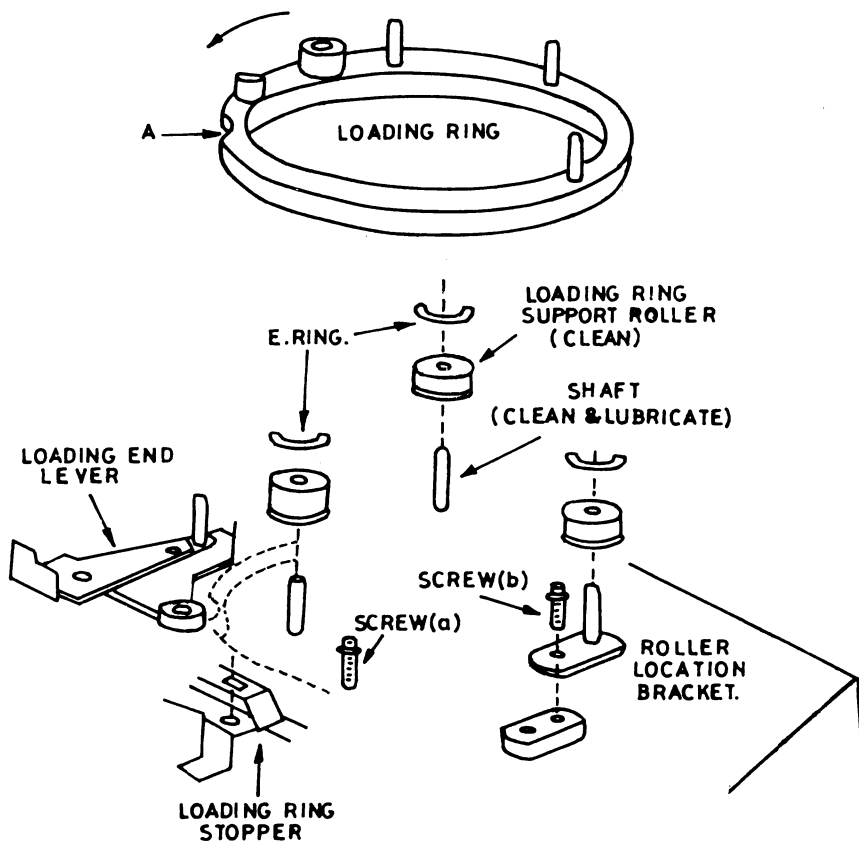

Fig. 10.11
2. Remove the screw (a) to detach the loading ring stopper as shown in fig. 10.11
4. Rotate the loading ring anti-clockwise by hand until the concave portion, indicated as A in the drawing of the loading ring faces the pinch roller pressing lever as shown in fig. 10.11